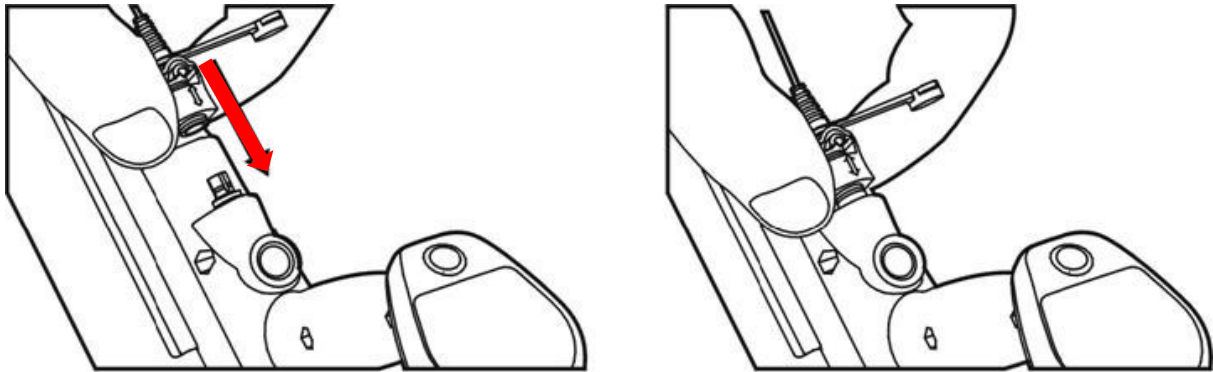

Figure 8: Connecting the Earset.
- Plug the earset into the detector as shown in Figure 8.